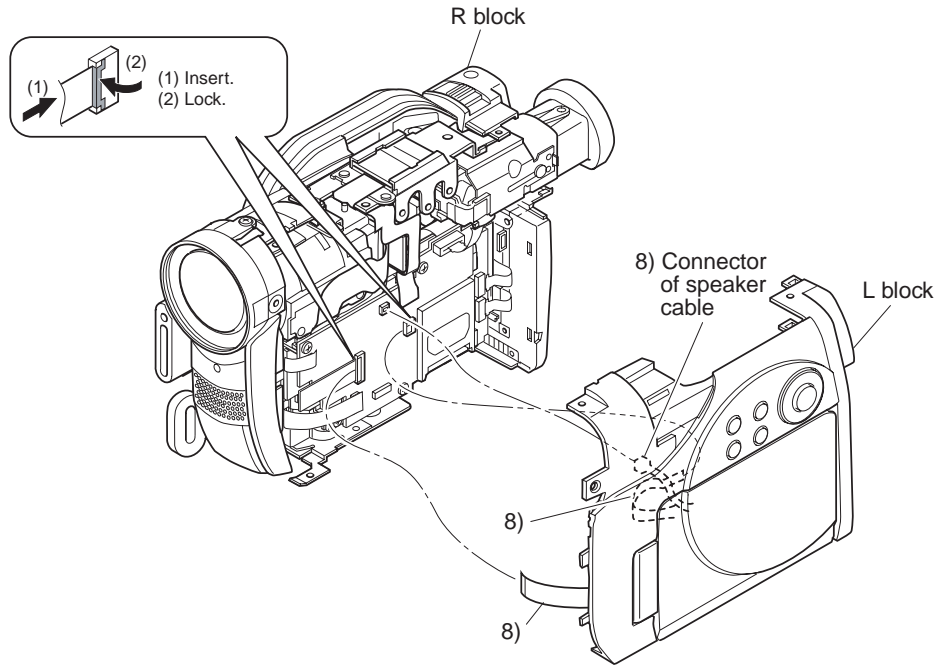

Fig. 4-6-5 Setting to Service Position (B) [2/2]
- 8) Connect the two flat cables on L block, and the connector of speaker cable, to the AEL circuit board (Fig. 4-6-5).